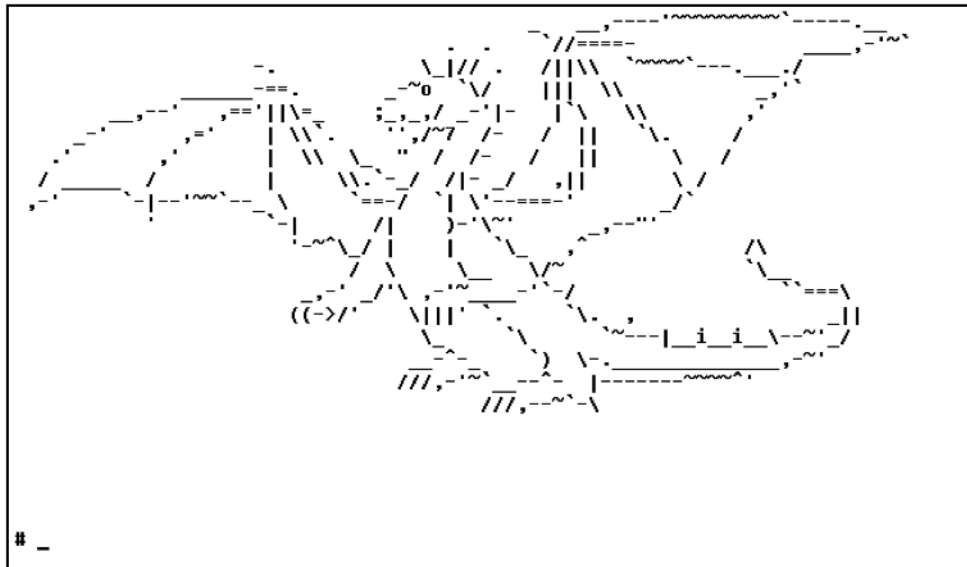

Figure 57
3. Wait for the ELPRO Dragon screen (Figure 57) to appear in HyperTerminal.